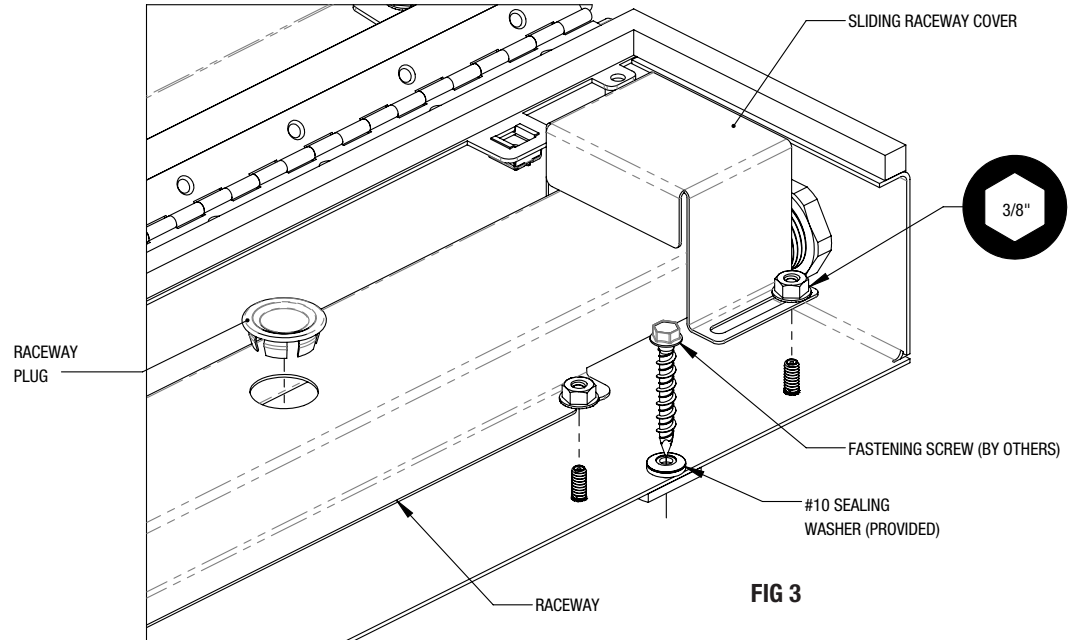

FIG 3
4. Remove both the raceway and the sliding raceway cover using a 3/8" Hex socket tool. Remove any raceway plugs as necessary. **FIG 3.**
6. Affix the luminaire to the wall using the provided #10 Sealing Washers. Fasteners by others. Consult fastener's respective installation guide as necessary. **FIG 3.**